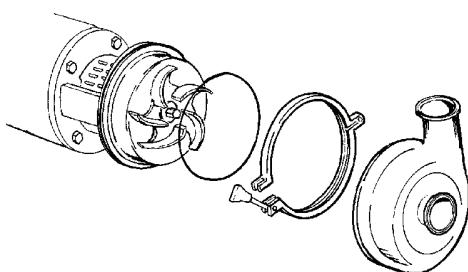

Figure 62 - Install o-ring, Casing And Clamp
15. Install the o-ring and casing; clamp in place. See Figure 62.